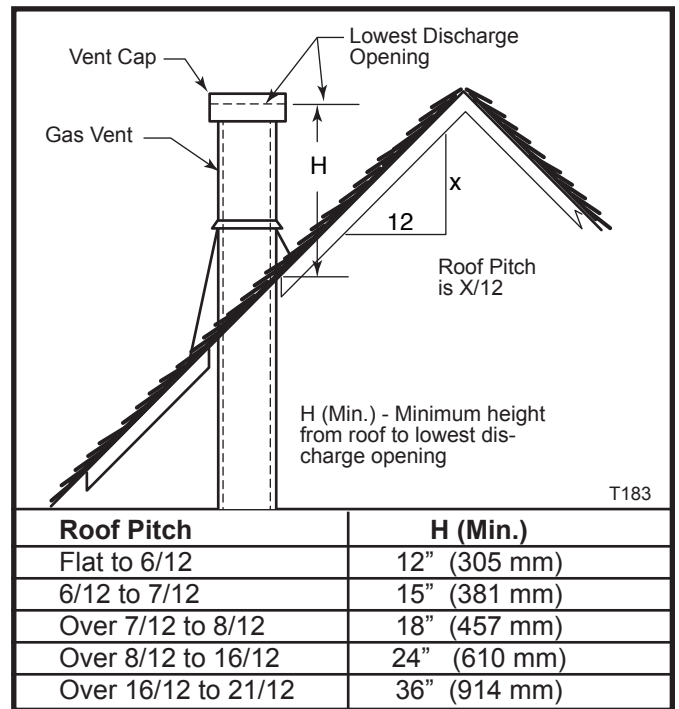

Fig. 34 Vertical termination location.
- The minimum height of the vent above the highest point of penetration through the roof is 2' (610 mm). (Fig. 34)